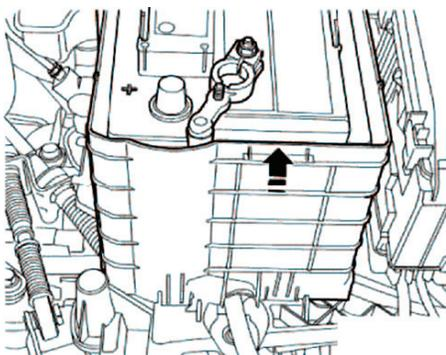

Fig. 3 Battery box panel removal
8. Pull out battery box panel upward (arrow) and remove, **Fig. 3**.
4. Install battery box panel, **Fig. 3**.